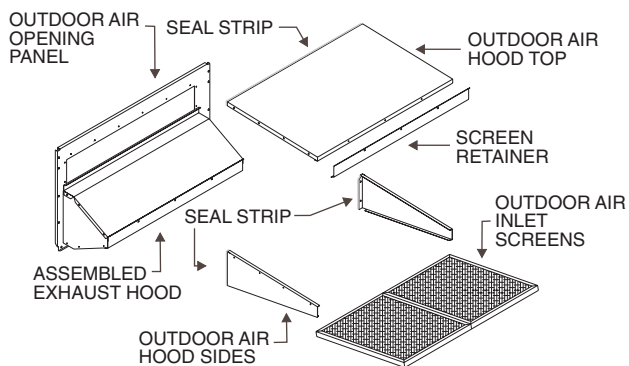
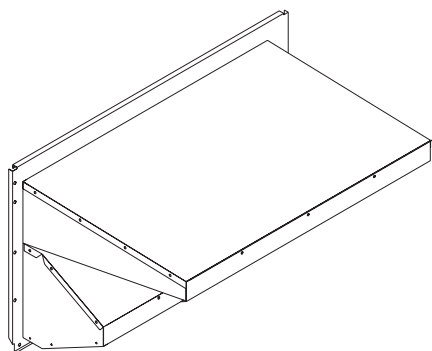

Fig. 32 — Outdoor Air Hood Assembly
Fig. 33 — Completed Hood Assembly
4. Install the ⅛ x ⅞ in. seal strip on the outdoor air hood top and side panels. Assemble the outdoor air hood to the outdoor air opening panel as shown in Fig. 32, using the screws provided. *Do not attach completed hood (Fig. 33) assembly to the unit at this time.*